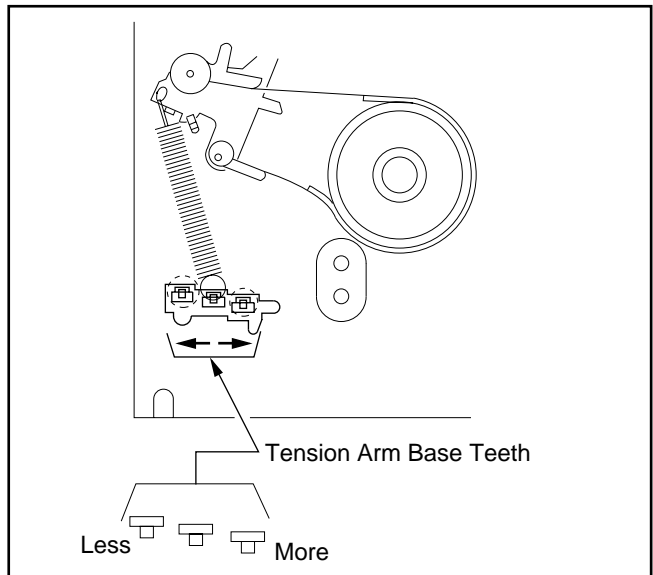

Fig. M9
1. Remove the Cassette Up Ass'y. Then re-position the Tension Spring on the Tension Arm Base Teeth in either direction as indicated by the arrow to obtain the specified tension. (See Fig. M9).